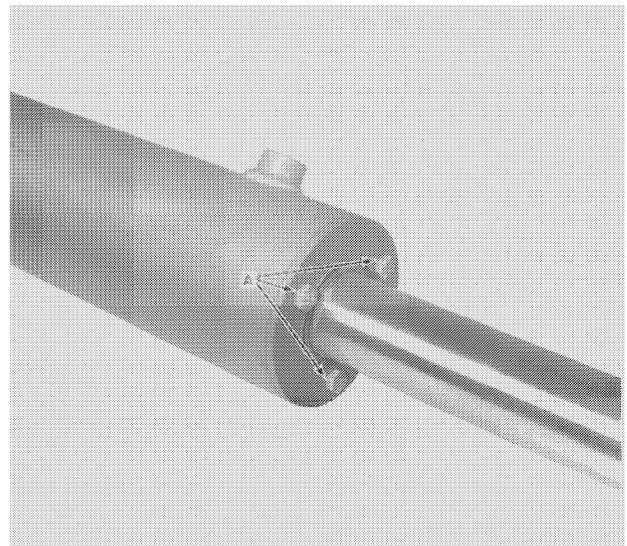

FIGURE 34
1. Remove three cap screws, A, Figure 34, and remove end cap. Drain oil from cylinder.